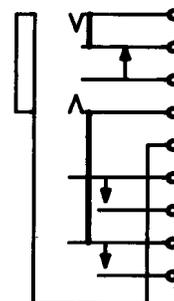

Fig. 1—500A Jack
2.01 500A: The 500A unit-type jack (Fig. 1) is designed for strip-type mounting. This jack is furnished only on orders for jack mountings. This jack is used with the No. 116, 136, 137, 250A, or similar-type jack mountings having 7/8-inch or greater mounting centers. The 500A jack is designed to be used with the 310 plug.